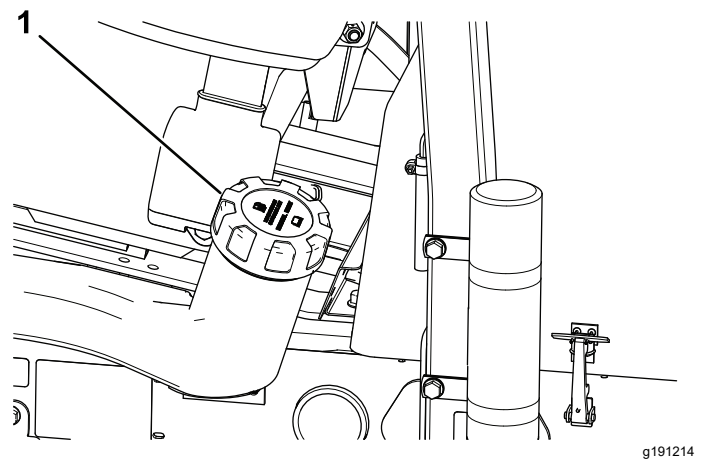

Figure 31
2. Clean the area around the fuel-tank cap (Figure 31).